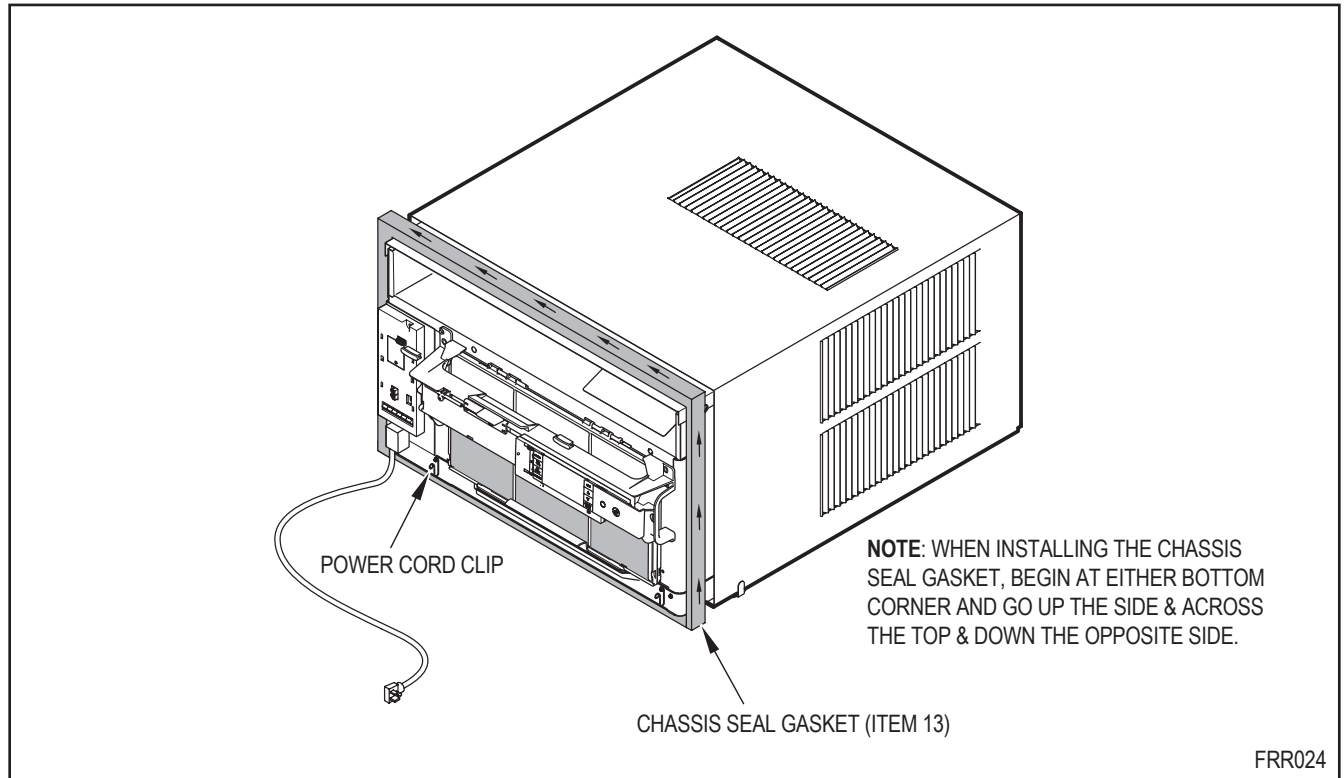

Figure C.5.10
STEP 11. Carefully team lift the chassis and set it into the cabinet. Slide the chassis stopping approximately 3" from full insertion. Insert the chassis seal gasket (Item 13) one inch deep between the chassis and the cabinet (see Figure C.5.10). A paint stir stick or ruler might be helpful here. Begin inserting the gasket at either bottom corner and go up the side, across the top, and down the opposite side. Then push the chassis all the way into the cabinet.